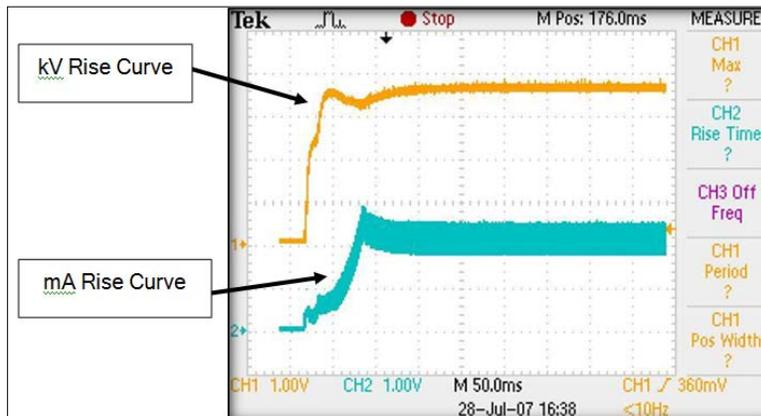

Figure 106: Correct kV-mA Rise Curves
- Using the hand switch, manually turn on the X-ray generator. The kV-mA rise curve should appear as in Figure 106.